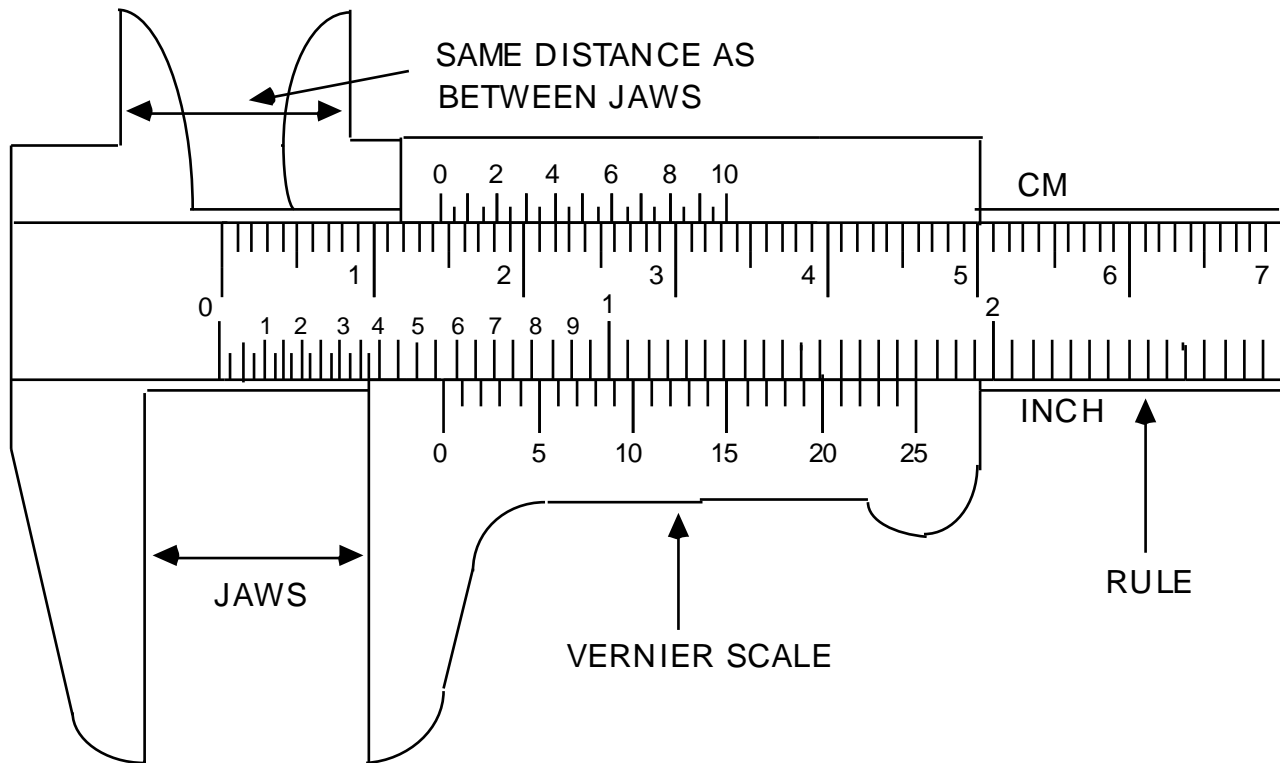

Figure 1: Vernier Caliper
Looking at the vernier caliper in Fig. 1, notice that while the units on the rule portion are similar to those on an ordinary metric ruler, the gradations on the vernier scale are slightly different. The number of vernier gradations is always one more than the number on rule for the same distance. The line on the vernier which is aligned with one on the rule tells us the fraction of the units on the rule.
- (1) Roll the thumb wheel until the jaws are completely closed (touching each other). Now check whether the caliper is reading exactly zero. If not, record the caliper reading, and subtract this number from each measurement you make with the caliper.
- (2) Use either the inside edges of the jaws, or the outside edges of the two prongs at the top of the caliper to make your measurement. Do not use the tips of the prongs. Roll the thumb wheel until these surfaces line up with the end points of the distance you are measuring.
- (3) To read the caliper:
- (a) record the numbers which correspond to the last line on the rule which falls before the index line (marked as 0) on the vernier scale. In Fig 1, this would be 1.4 cm since the index line falls after the 1.4 cm line and before the 1.5 cm line.
- (b) count to the right on the vernier scale until you reach a vernier line which lines up with a line on the rule and record the number of this vernier line as your last digit. In Fig 1, it is the vernier line marked 4 (rather than the 4.5 line, say) which is aligned with one on the rule. The full vernier scale corresponds to one small division on the main scale, that is, .1 mm, so the vernier tells us to add $.4 * .1 = .04\text{cm}$, so the whole distance is 1.440 cm.
Alas, the inch scale vernier of Fig 1 is not marked correctly; the correct corresponding reading would be .567 inches, so the inch vernier should have lined up at about 17 instead of 25: $.55\text{ inches} + .017\text{inches}$).